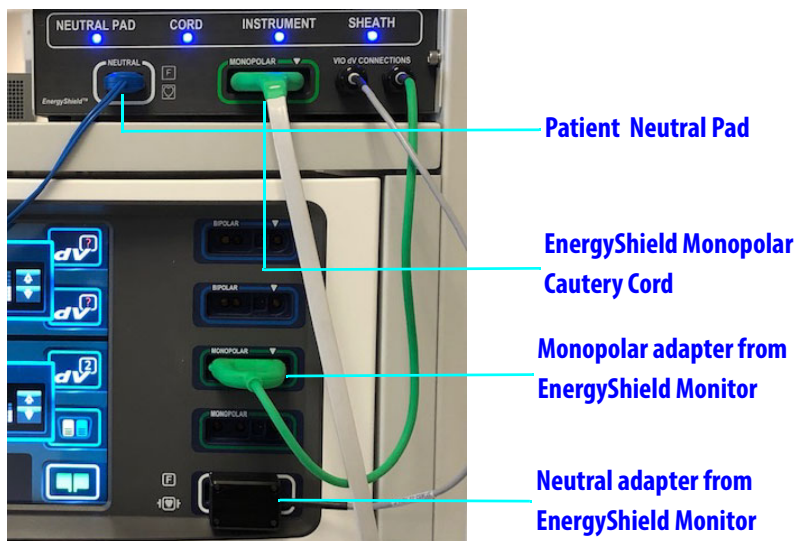

Figure 8.14 Blue LEDs confirmation
- Confirm all four LEDs illuminate blue (as shown in Figure 8.14) before using the monopolar instrument.